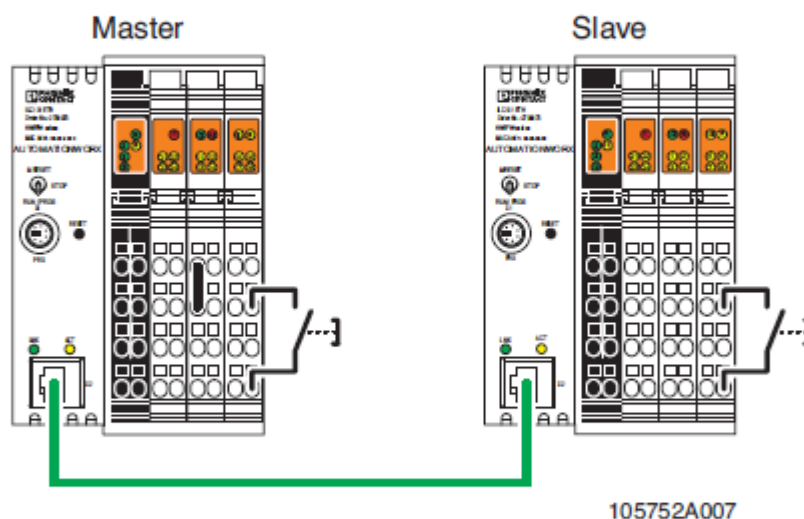

Figure 2-9 Applying a 24 V DC pulse to the I8 input of the Inline controllers
- Apply a 24 V DC pulse to the I8 input of each Inline controller, as shown in Figure 2-9.